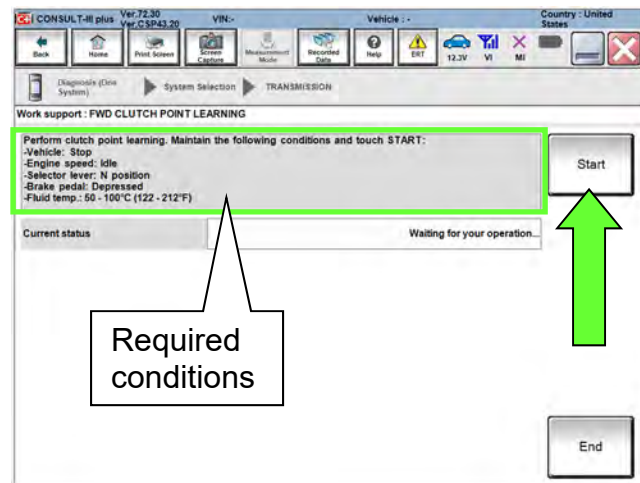

Figure 170
- Confirm that all of the conditions indicated in Figure 170 are being met.
170. While maintaining all conditions shown in Figure 170 and the Current status indicates EXECUTING, shift the CVT into **R** and then wait until the Current status indicates COMPLETED.